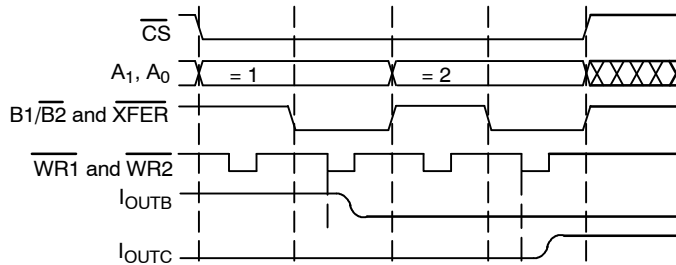

Figure 9. Automatic Transfer to DAC Latches
- 3) Automatic transfer to DAC latches. An 8-bit bus can update any DAC with two cycles by connecting  $\overline{WR1} = \overline{WR2}$  and  $B1/\overline{B2} = \overline{XFER}$ . This is the correct individual DAC update for 8-bit busses (Figure 9.).